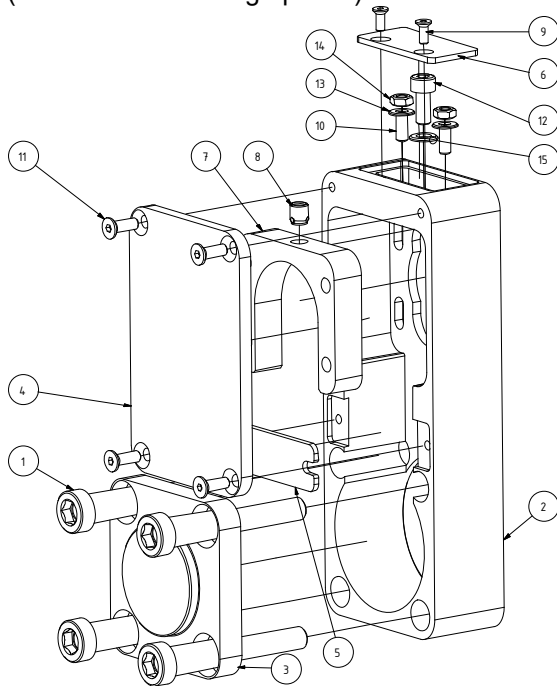
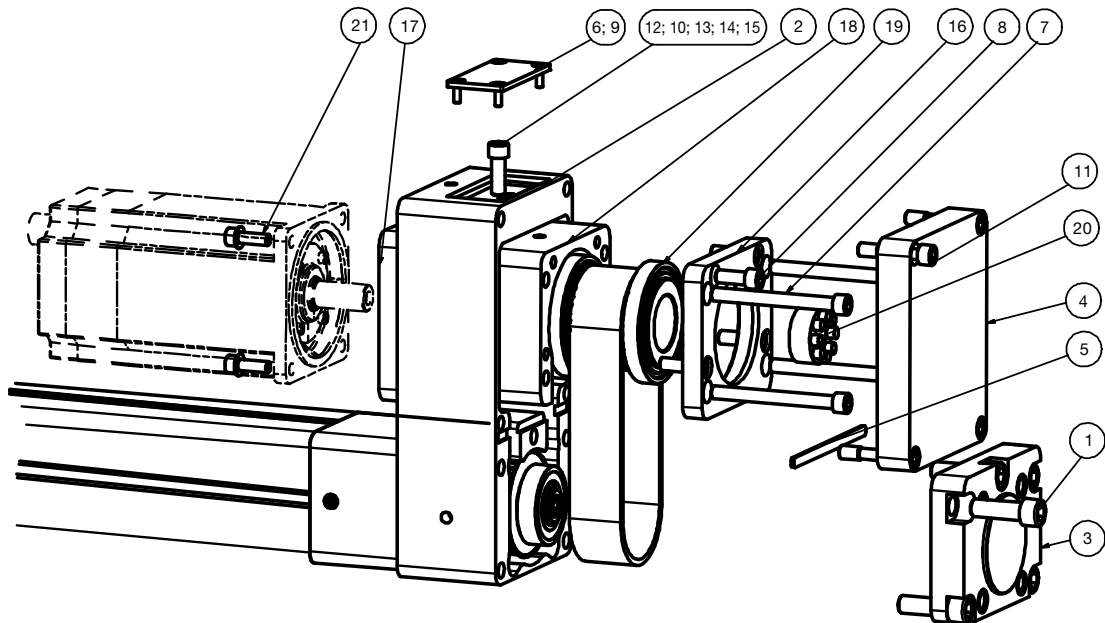

Figure 37: Parallel housing (2)
Figure 39: Exchange toothed belt ETH100&125
For visual inspection, you must only remove the (upper) lid with the four screws (see Figure 37 & Figure 39 Pos.4+11).
- ◆ Loosen and remove 4 screws (please refer to Figure 37 Pos.1).
- ◆ Remove cover (please refer to Figure 37 Pos.3).
- ◆ Remove bar (please refer to Figure 37 Pos.5).
- ◆ Clean the inside of the parallel housing (see Figure 37 pos.2) and the previously removed components.
- ◆ Insert bar (please refer to Figure 37 Pos.5).
- ◆ Replace cover (please refer to Figure 37 Pos.3).
- ◆ Apply screw lock "Wiko 02K43 medium" to 4 screws (please refer to Figure 37 Pos.1) and tighten slightly.
- ◆ Align gearbox (please refer to Figure 37 Pos.2) with the electro cylinder.
- ◆ Tighten 4 screws (please refer to Figure 37 Pos.1) with the given tightening torque.
- ◆ Mount lid (please refer to Figure 37 Pos.6) with screws (please refer to Figure 37 Pos.9).
- ◆ Mount lid (please refer to Figure 37 Pos.4) with screws (please refer to Figure 37 Pos.11).
- ◆ Unscrew the 4 screws (Figure 39 Pos. 7). Set aside the screws and motor flange (Figure 39 pos. 17).
- ◆ Loosen central toothed belt tensioning screw (please refer to Figure 39 Pos.12). The drive unit must lower slightly when the tensioning screw is loosened.
Secure upper bearing unit (Figure 39 Pos. 18) against dropping. Danger of crushing: Do not place your hands or fingers between upper bearing unit and parallel housing.
- ◆ Unscrew and set aside the tensioning screw (Figure 39 pos. 12).
- ◆ Loosen 5 screws (please refer to Figure 39 Pos.1) and remove lid (please refer to Figure 39 Pos.3). If the lid can not be removed easily (please refer to Figure 39 Pos.3), try to remove it with a slightly pivoting movement.
- ◆ Remove middle bar (please refer to Figure 39 Pos.5) with seal.
- ◆ Remove upper bearing unit with toothed belt (please refer to Figure 39 Pos.18).
- ◆ Unscrew 4 screws (Figure 39 pos. 8) from the bearing unit and set aside.
- ◆ Remove the bearing flange (Figure 39 pos. 16) from the bearing unit (see illustration 39 pos. 18) by means of the existing impression threads and two screws M6x30 (not included in the scope of delivery). Screw in the screws to the stop and then screw in both screws alternately by 1/2 turn each.
- ◆ Remove hollow shaft with the two bearings (please refer to Figure 39 Pos.19) from the bearing unit(please refer to Figure 39 Pos.18).
- ◆ Clean the inside of the parallel housing (see illustration 39 pos.2) and the previously removed components.
- ◆ To insert the hollow shaft (Figure 39 pos. 19) with the two bearings into the bearing unit (Figure 39 pos. 18) and mount the bearing flange (Figure 39 pos. 16) use a hand press and carefully press the parts into each other.
- ◆ Screw screws (Figure 39 Pos.8) into the bearing unit.
- ◆ Adjust the toothed belt pre-tension with the tension screw (Figure 39 pos.12):